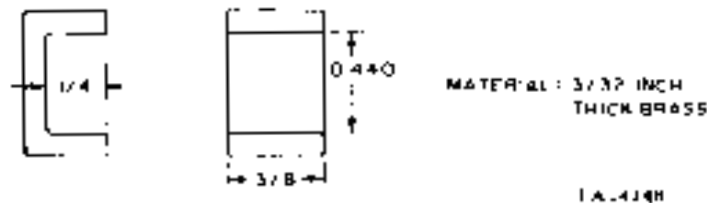
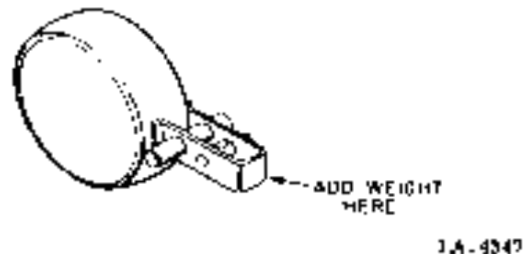

Figure 1
Figure 2
3. The Delrin needle requires a weight added to the float lever. The weight must weigh approximately four grams. Refer to Figure 1 for instructions for fabrication of the weight. Sift solder the weight to the float lever in the location indicated in Figure 2. Use a 300 or 500 watt electric iron for this soldering operation to get the solder to flow. Keep the float and lever wrapped in a wet cloth to prevent melting other solder joints.